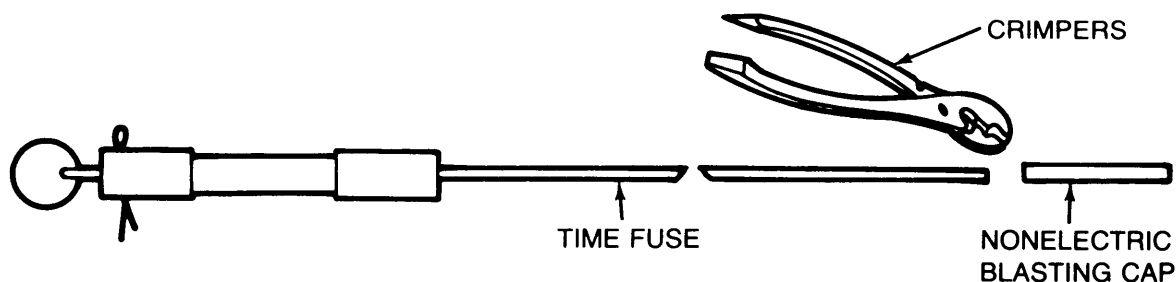

Figure 2-2. Nonelectric Firing System for Demolition Materials.
(2) For nonelectric firing, use nonelectric blasting caps crimped to time blasting fuses (fig 2-2). Always check fuse burning time before crimping on cap.